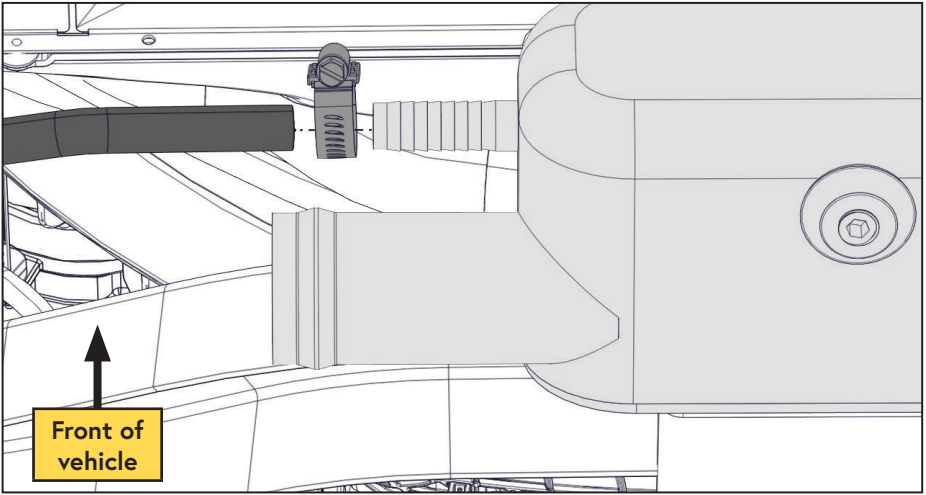

Figure 12 — Connect hose to VMAC cooler
- ☐ Connect the hose to the small spigot on the passenger side of the cooler using a hose clamp (Figure 12).